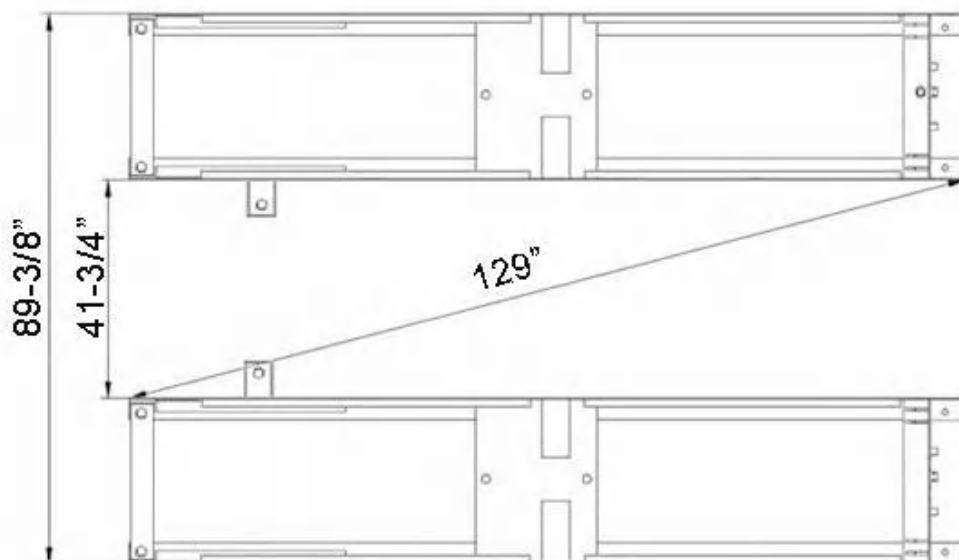

Fig. 4
- 1.1 AX-12/AX-12A On surface installation foundation (See Fig. 4)